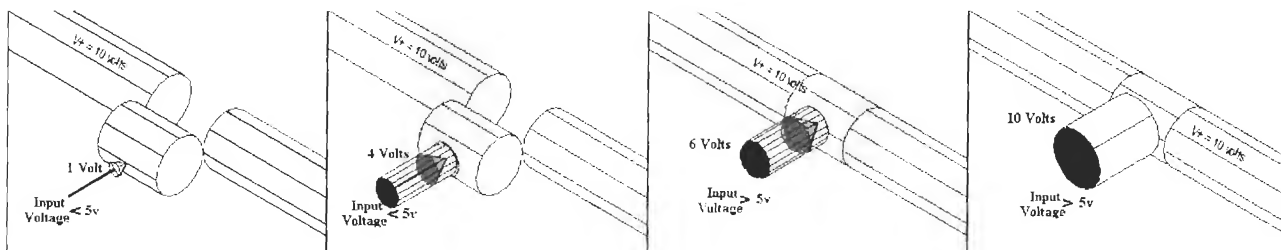

Figure L14-1
- For example, as shown in Figure L14-1, the gate is powered by 10 volts.